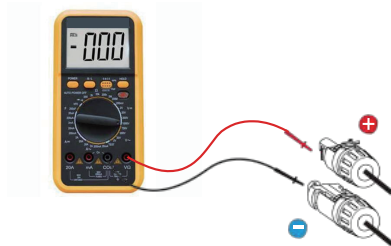
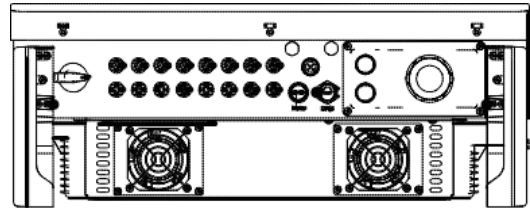

Figure 5.16 Multimeter measurement
Figure 5.17 Connect the DC Connectors to the Inverter
- Measure PV voltage of DC input with multimeter, verify DC input cable polar (see figure 5.16), and ensure each string of PV voltage in range of inverter operation. Connect DC connector with inverter until hearing a slight clicking sound indicates connection succeed. (see figure 5.17)